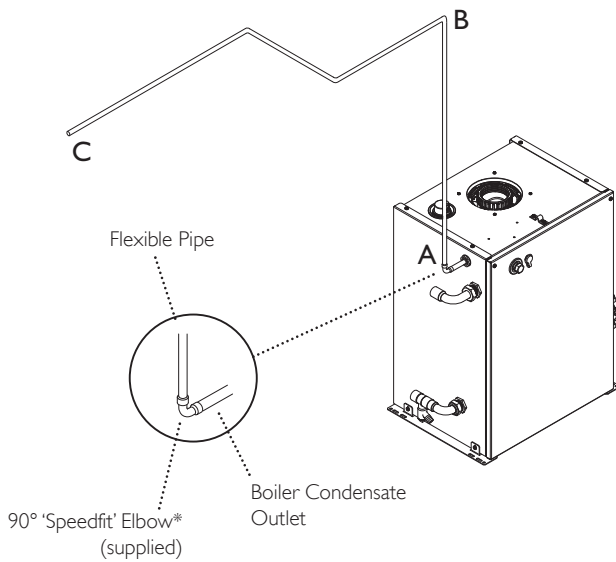

Fig. 14
6. From 'A' to 'B' (vertical run) must be NOT GREATER than 2.5 metres (Fig. 14). The length of vertical run influences the maximum horizontal run and number of elbows allowed. From 'B' to 'C' (horizontal run) can be as shown in the table overleaf. The permissible number of 90° elbows is also given.